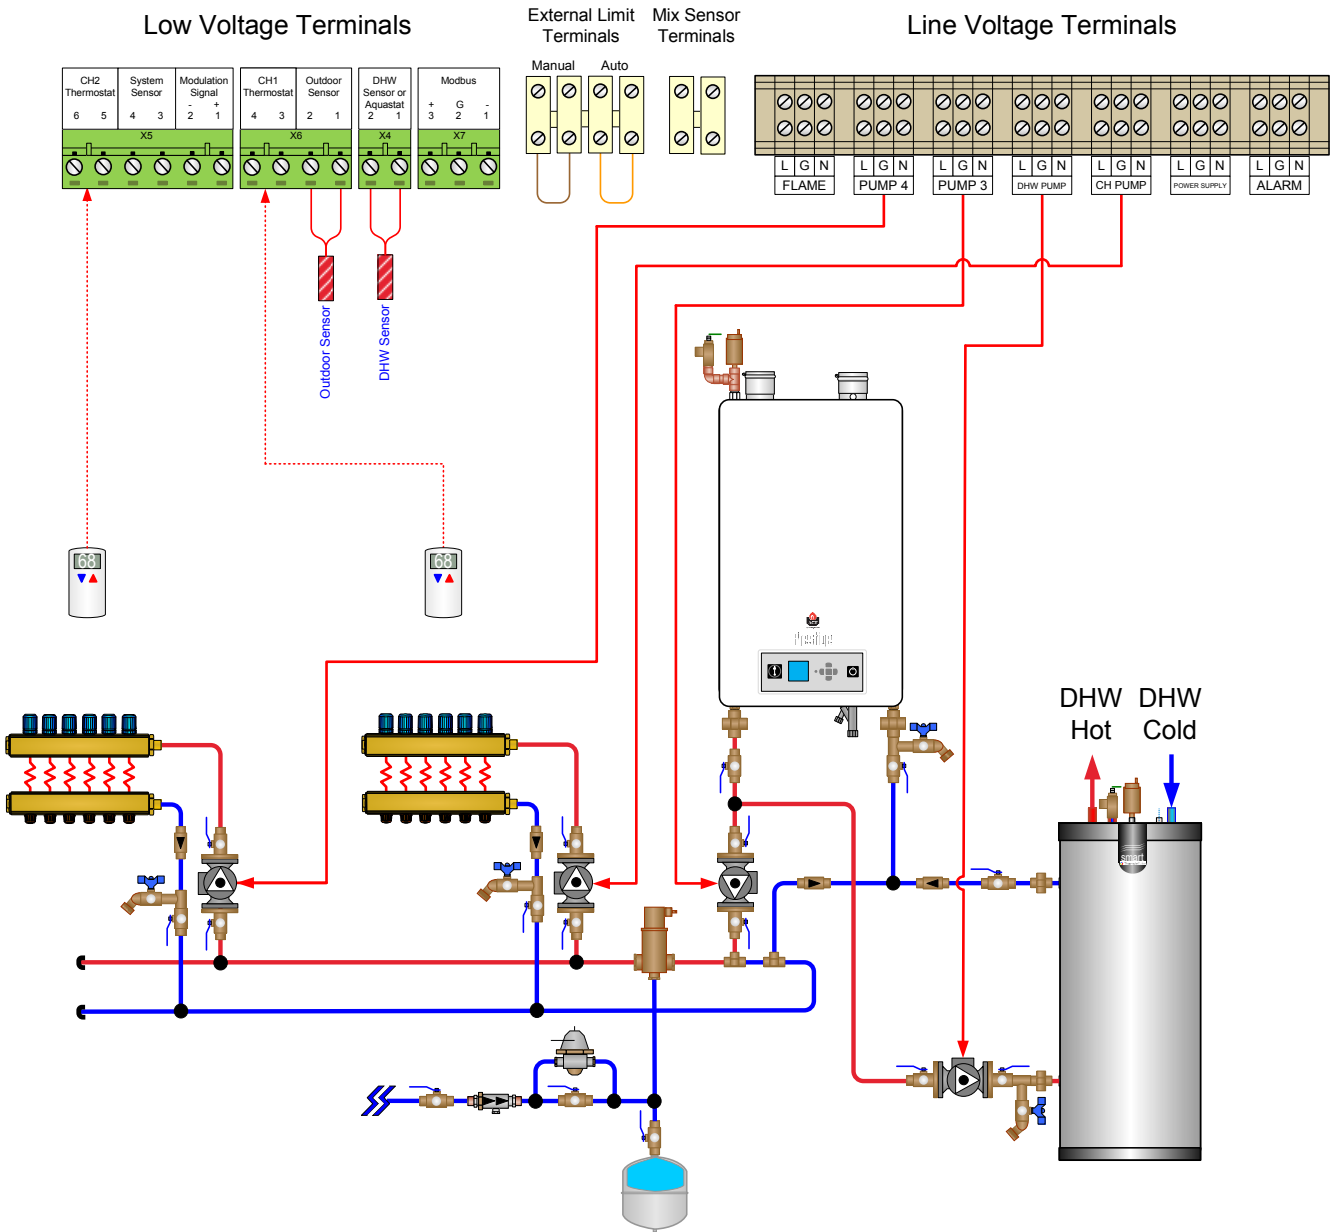
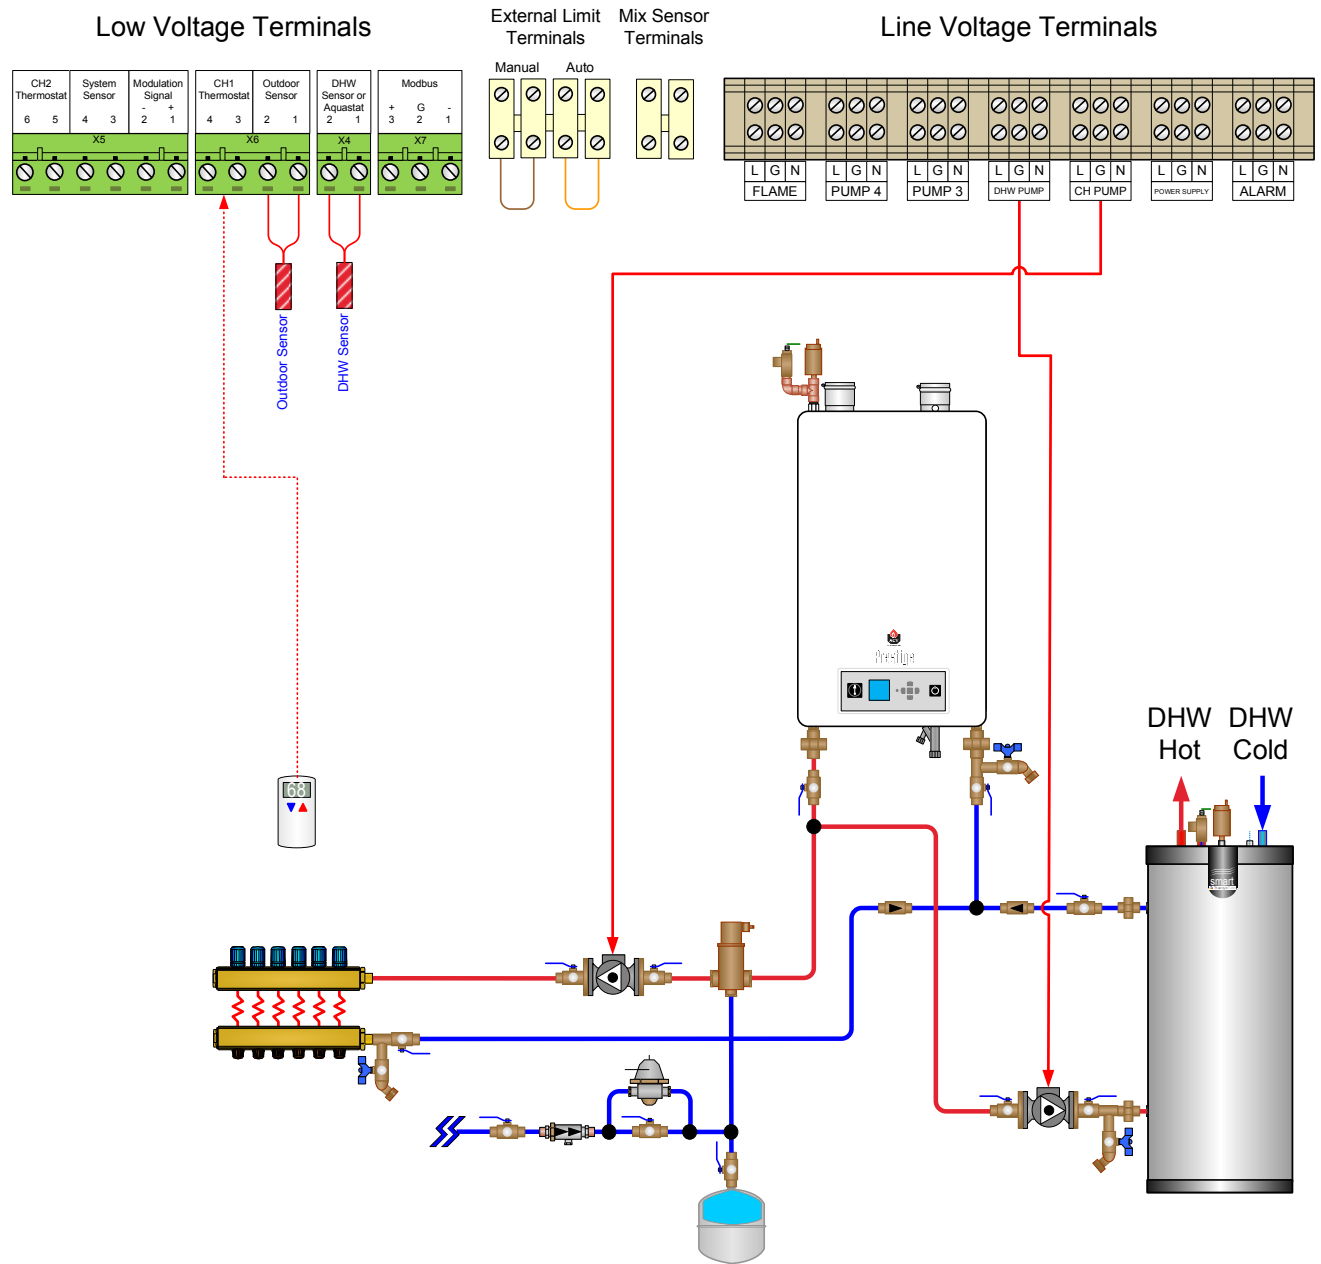
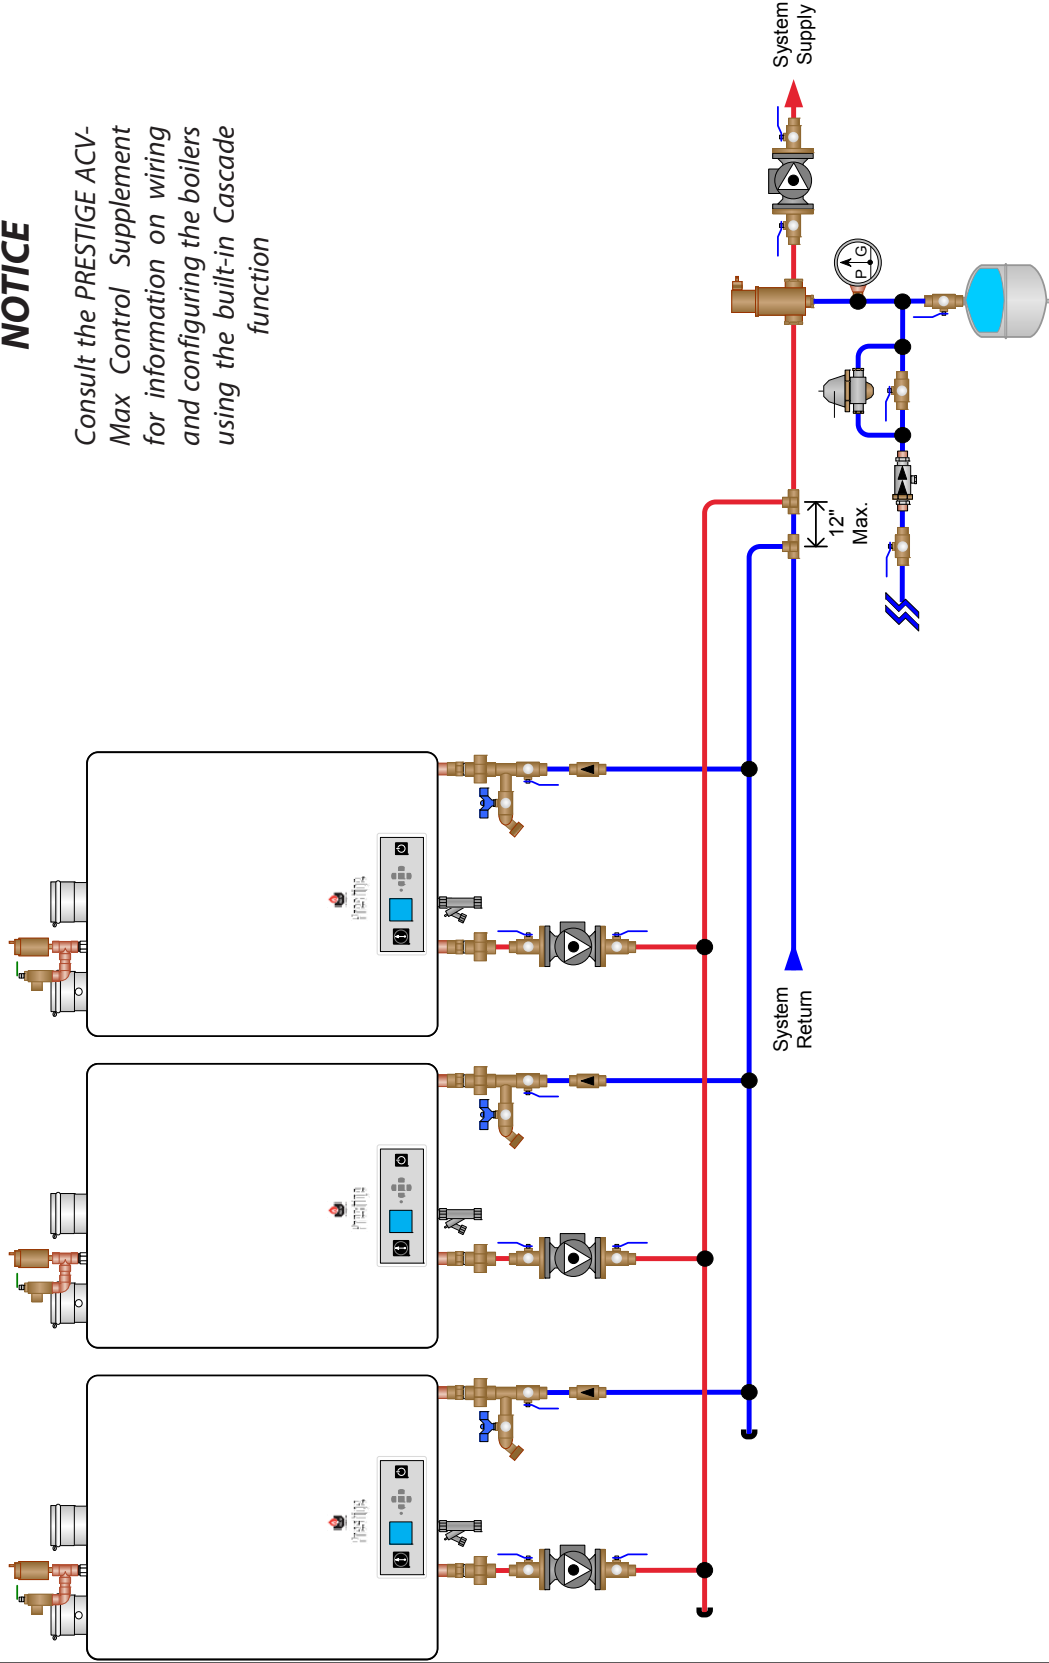

Fig. 9 - System Piping - Zoning with Zone Circulators
Fig. 12 - System Piping - Single Zone System with Single System/Boiler Circulator
Fig. 13 - Multiple PRESTIGE Solo Boiler Piping - Primary / Secondary
See *Fig. 9 on page 18 through Fig. 13 on page 22*, for recommended piping arrangements based on various applications. Size the piping and system components required in the space heating system using recognized design methods.
See *Fig. 9 on page 18 through Fig. 12 on page 21* for recommended piping to a DHW system. This recommended piping configuration ensures priority is given to the production and recovery of DHW.
Connect the PRESTIGE Solo to the system piping as shown in *Fig. 9 on page 18* when zoning with zone circulators.
*Fig. 12 on page 21* illustrates a single zone system utilizing the boiler circulator as the system circulator.
Use a balanced manifold system as the primary / secondary connection to the space heating piping as shown in *Fig. 13 on page 22*.